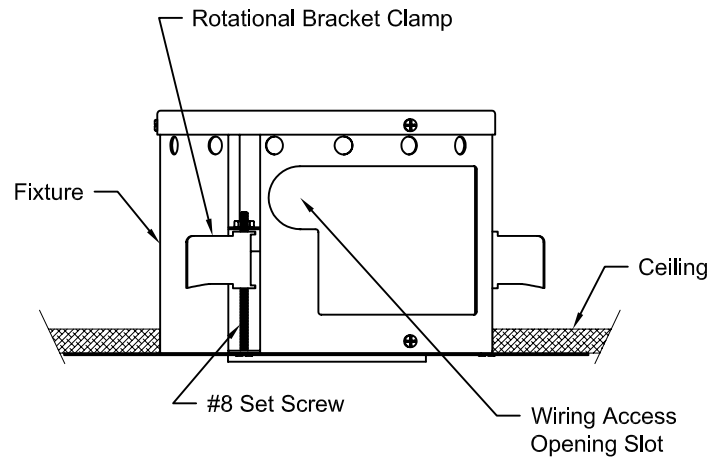

**Figure 3**
1. Remove factory installed Wiring Access Door on Fixture. See Fig. 3. Retain Wing Nuts and Door for re-installation.